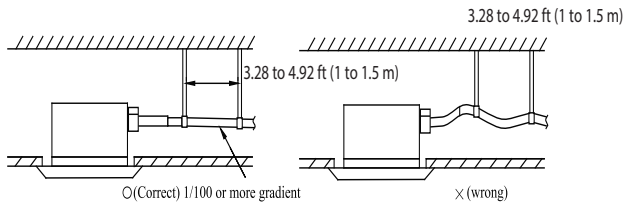

Fig. 8 – Drain Hose
- To prevent a bend in the drain hose, the distance between the hoisting stand should is 3.28 to 4.92 ft. (1 to 1.5 m) (see Fig.8).